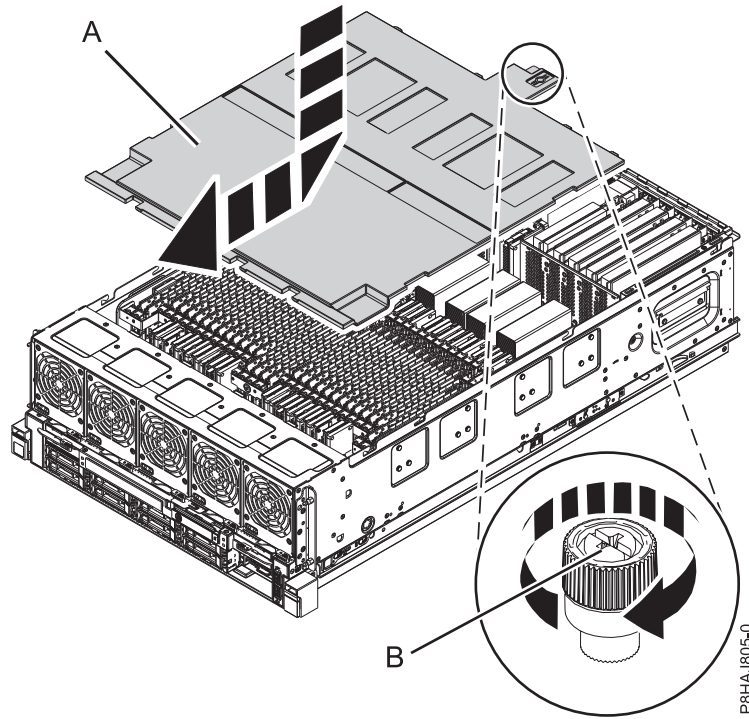

Figure 11. Replacing the safety cover
2. Push the safety cover (A) toward the chassis.
3. Tighten the thumbscrew (B) by turning it in the direction shown in Figure 11 on page 31 to fix the safety cover to the chassis.